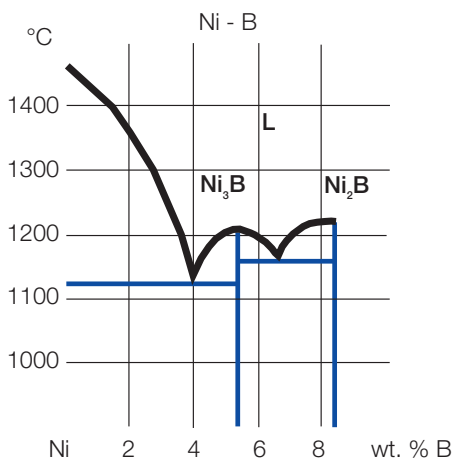

Figure 2a Phase diagram for Ni-B
Essential elements in a self-fluxing alloy are silicon (Si) and boron (B). These two elements have a very strong influence on the liquidus temperature. The melting temperature for pure nickel (Ni) is 1455°C. The alloy liquidus can be reduced to below 1000°C by increased concentration of Si and B. The melting temperature range is defined by the solidus and liquidus (Fig. 2a/2b). The low melting points of the self-fluxing alloys is of great advantage, as these can be coated without fusion to the